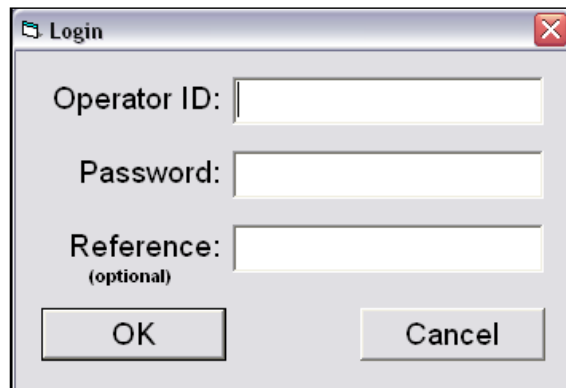

Figure 33: Login box
49. Click on any tab at the top of the screen. The Login box appears (Figure 33).